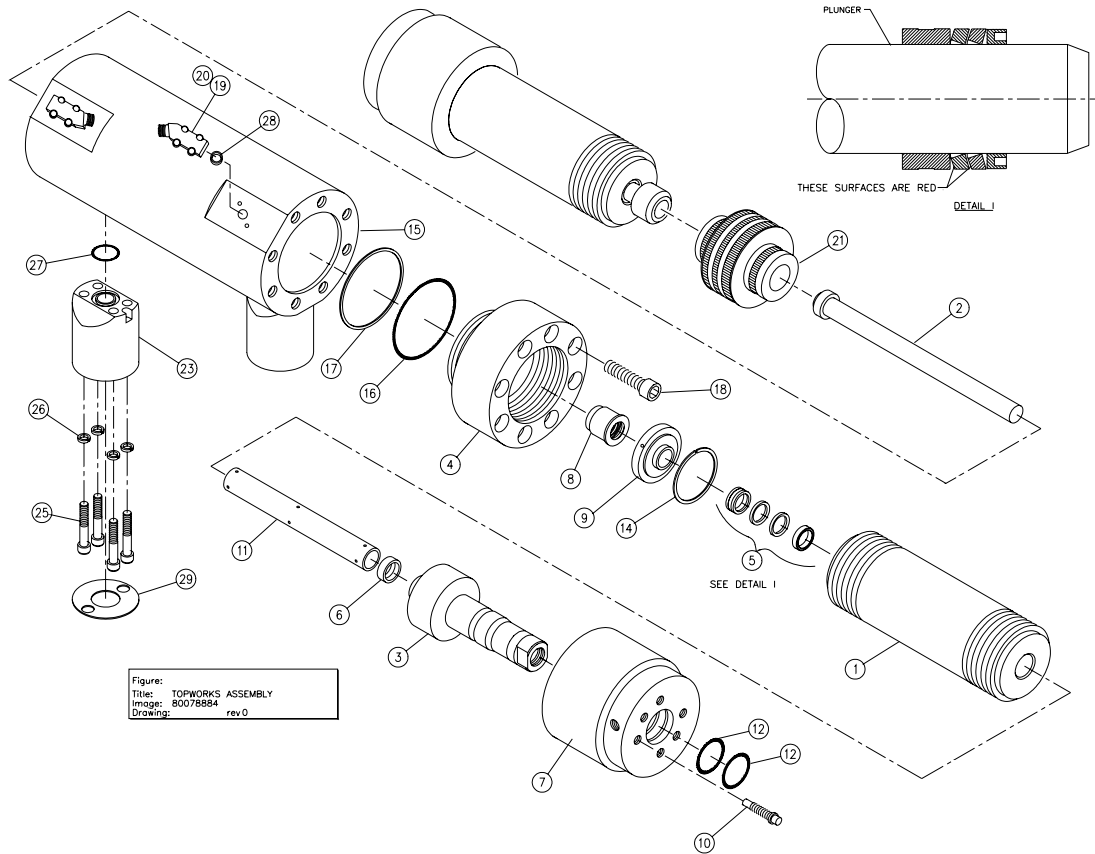

Figure 7-2
1. HSEC: - Hard Seal End Cap – (Items 7, 10 and 12 Figure 7-2)
2. HP Cylinder Jug: High Pressure Cylinder, Sealing Head Assembly and End Cap assembly treated as a unit. – (Items 1, 3, 7, etc. Figure 7-2)
3. Hydraulic Cylinder: Hydraulic Cylinder Body, Hydraulic Cylinder Heads (2 each), and Hydraulic Piston. – (Items 15, 4, 21, etc. Figure 7-2)
4. Jackbolt – (Item 10, Figure 7-2)